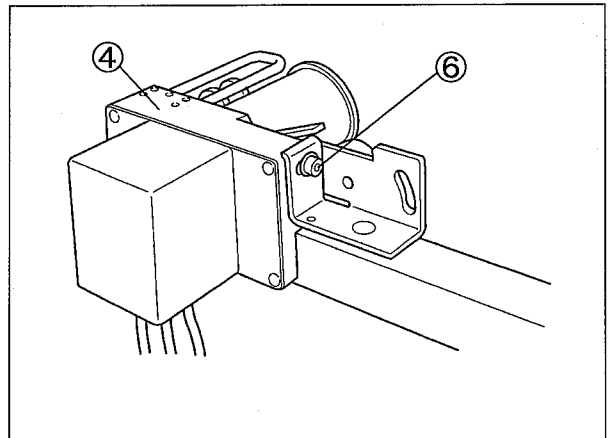

Fig. 2-18
And the right-and-left position of tape feeder can be adjusted by loosening the screw ⑥. (Fig. 2-18)